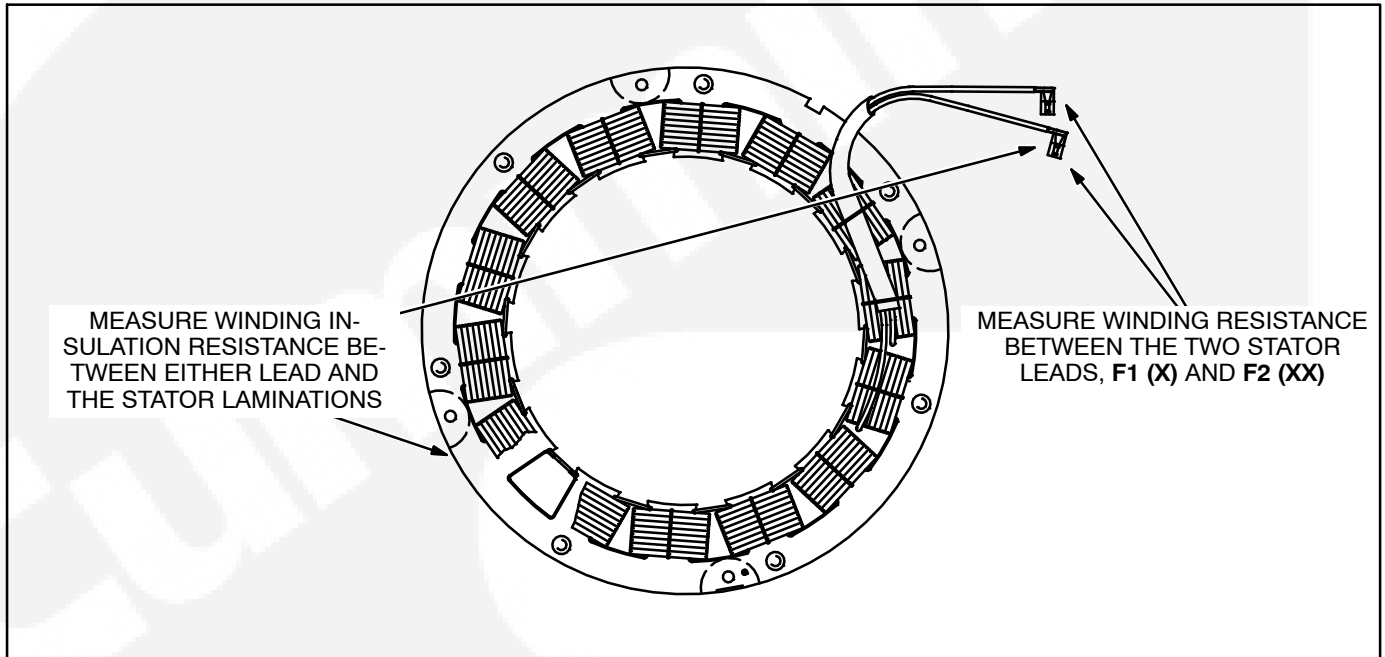

FIGURE 6-2. TESTING THE EXCITER STATOR
**Megger Test:** The megger test consists of applying voltage for up to one minute (Figure 6-2, 6-4, 6-5 and 6-6. The highest resistance values shown in Table 6-1 should be obtained for a new generator with dry windings. For a set that has been in service,